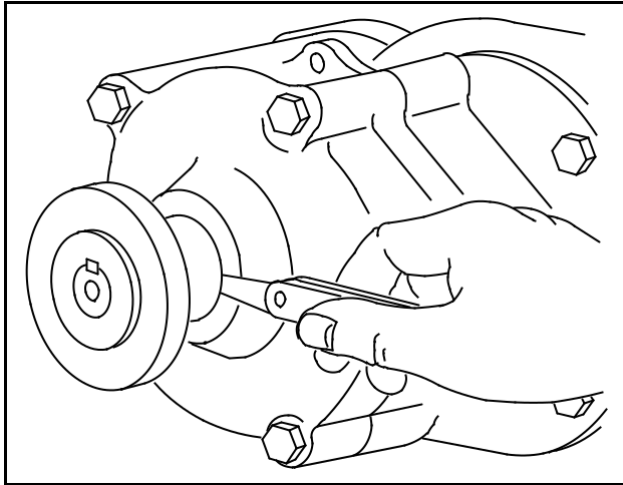

Fig. 151 - CHECKING END PLAY USING PULLEY POCKET
**NOTE:** If a dial indicator is not available, use a sprocket or pulley and check end play as shown in Fig. 151.